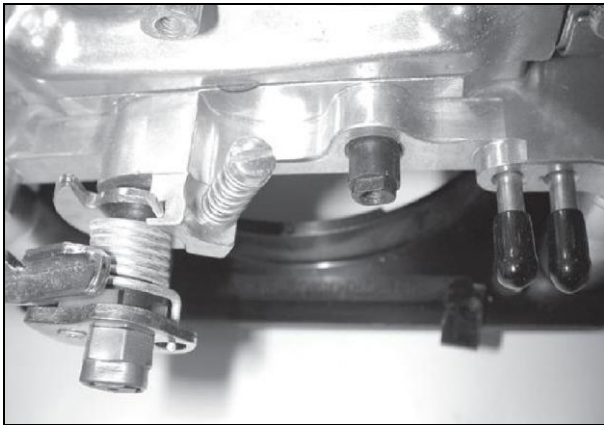
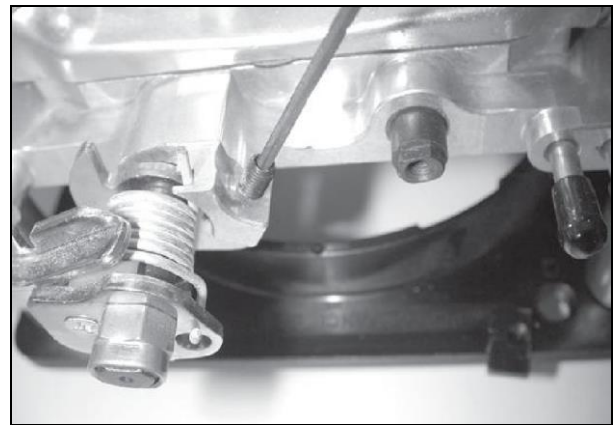

Figure 2
Figure 3
2. If your carburetor is a Speed Demon Twin Squirter (mechanical secondary), it is equipped with a slotted screw to control the secondary butterfly position (Fig. 2). This must be changed to the 3/32" Allen screw (Fig. 3) included with the kit (if you do not, the linkage can bind). This will require you to reset the secondary throttle shaft. Set the secondary butterflies to the bottom of the transfer slot so you cannot see any of the slot at idle (butterflies closed), but with any movement of the secondary butterflies you will begin to see the slot. *(Refer to your Demon carburetor instruction manual for further information.)*